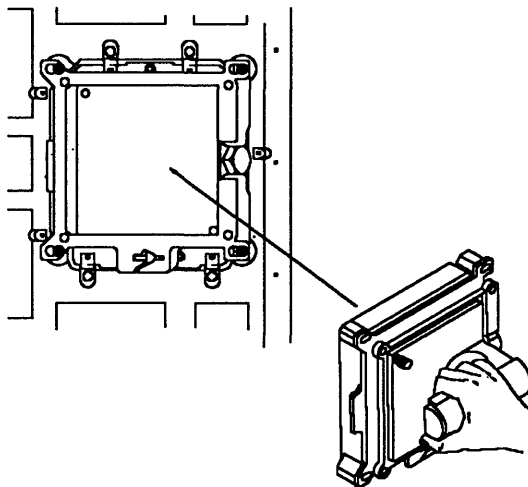

Figure 5-104. TCM Installation
4. Hold the TCM by the handle, position the cam at the bottom, and carefully insert it into the board as shown in Figure 5-104.